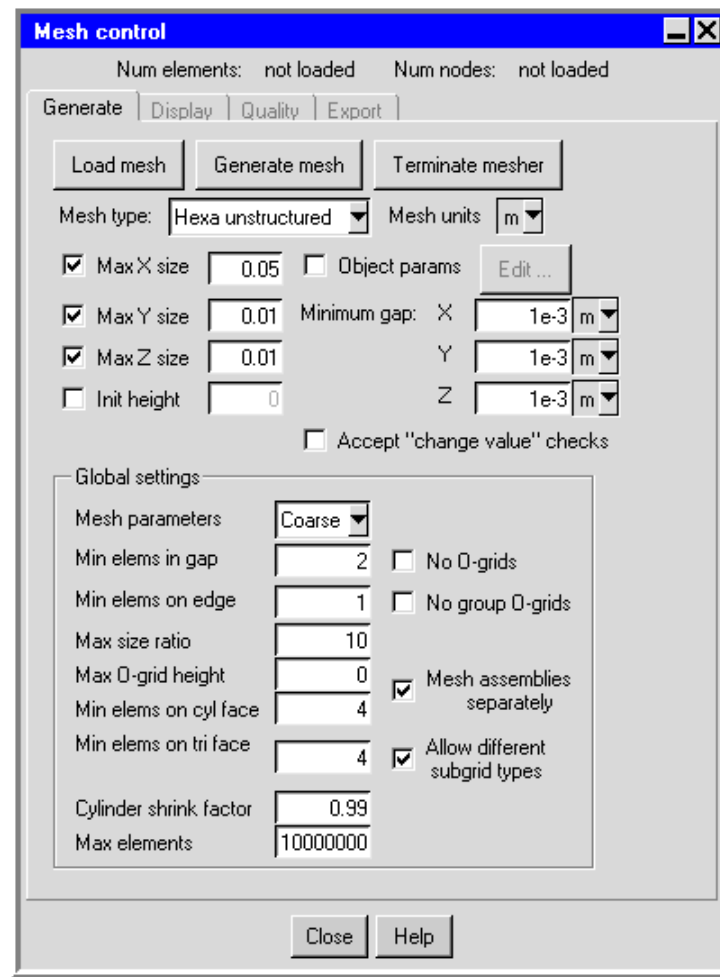

Figure 26.4.1: The Mesh control Panel for the Hexahedral Mesher
1. Open the **Mesh control panel** (Figure 26.4.1) by selecting **Generate mesh** in the **Model** menu, or by clicking on the  button in the **Model and solve toolbar**.
1. Open the **Mesh control panel** (Figure 26.4.1) by selecting **Generate mesh** in the **Model** menu, or by clicking on the  button in the **Model and solve** toolbar.
1. Open the **Mesh control panel** (Figure 26.4.1 or 26.4.2) by selecting **Generate mesh** in the **Model** menu, or by clicking on the  button in the **Model and solve toolbar**.